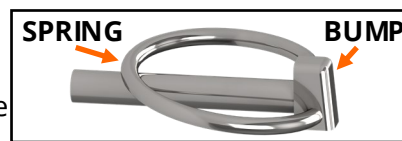

FIGURE B3: Lynch pin
**NOTE:** The lynch pin spring must close on the same side as the bump on the top of the pin, **see Figure B3**.